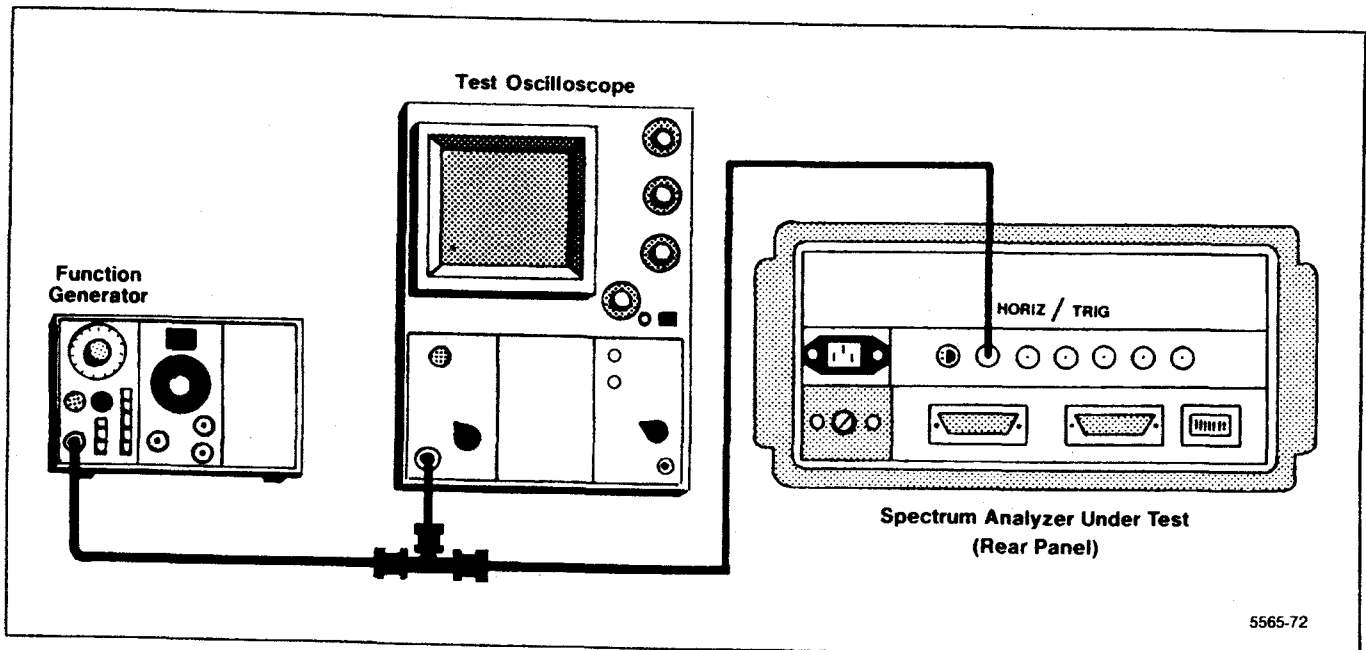

Figure 4-22. Test equipment setup for checking external triggering and horizontal input characteristics.
h. Connect the test equipment as shown in Figure 4-22.
- a. Connect the test equipment as shown in Figure 4-22. Set the Spectrum Analyzer controls as follows: